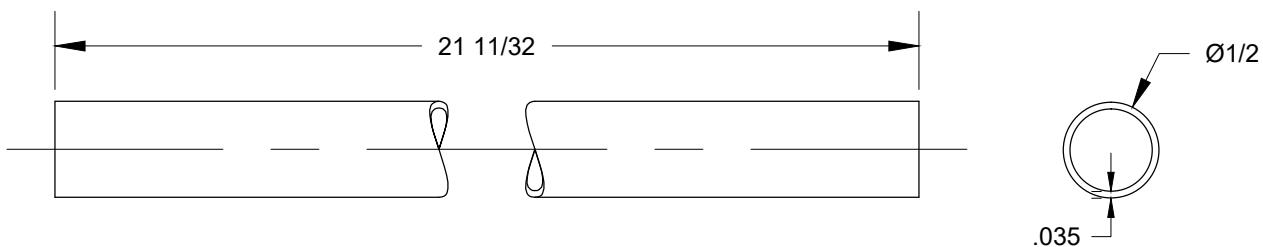

FIGURE 1:
Step 1: Fabricate two **W-1018A** Bellcrank to Aileron Pushrods by cutting two pieces of ST4130-035 X 1/2 to the length shown in Figure 1.